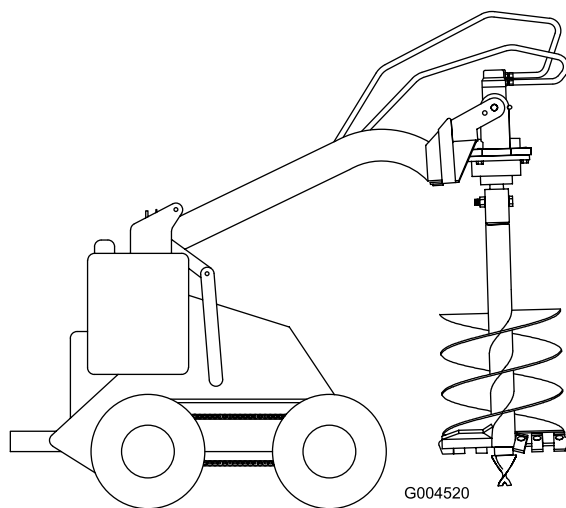

Figure 9
12. Raise the auger free of the ground (Figure 9).
13. When the auger is vertical, tilt the attachment plate rearward, until the drive head contacts the attachment plate to stabilize the auger and keep it from swinging freely (Figure 9).